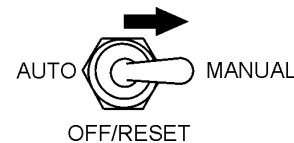

Figure 40. MPEC Control Switch (Manual Position)
2. Place the **MPEC control switch** in the **MANUAL** position to start the engine (Figure 40).